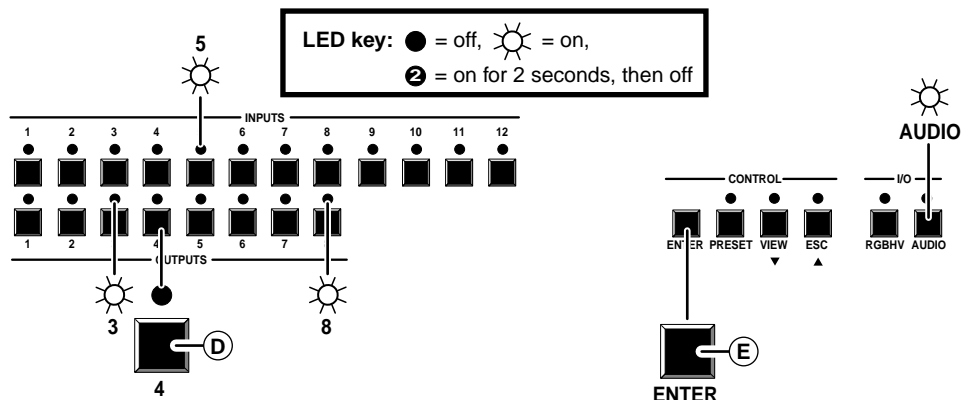

Figure 3-7 — Example 3d: Removing an audio tie
- Press and release the output 4 button (figure 3-7). The output 4 LED turns off, while the output 3 and output 8 LEDs remain lit.